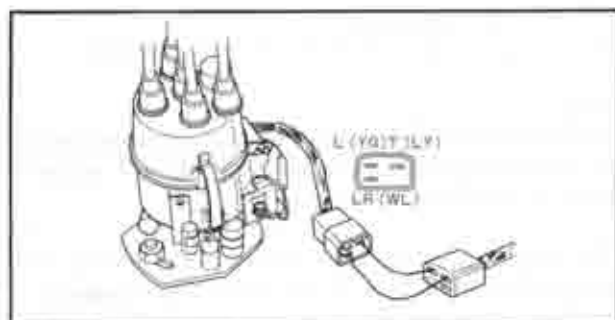

Fig. 5-6 Coupler connection diagram
8. Remove the coupler of the distributor and connect proper leading wires to the ends of separated couplers as shown in Fig. 5-6.
1. Remove the coupler of the distributor and connect wires as shown in Fig. 5-6.